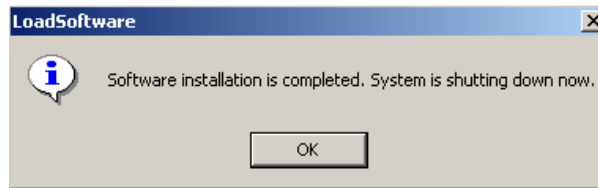

Figure 8-170 Software Load Complete
- 7.) When the process has completed, you will see the following message in Figure 8-170.